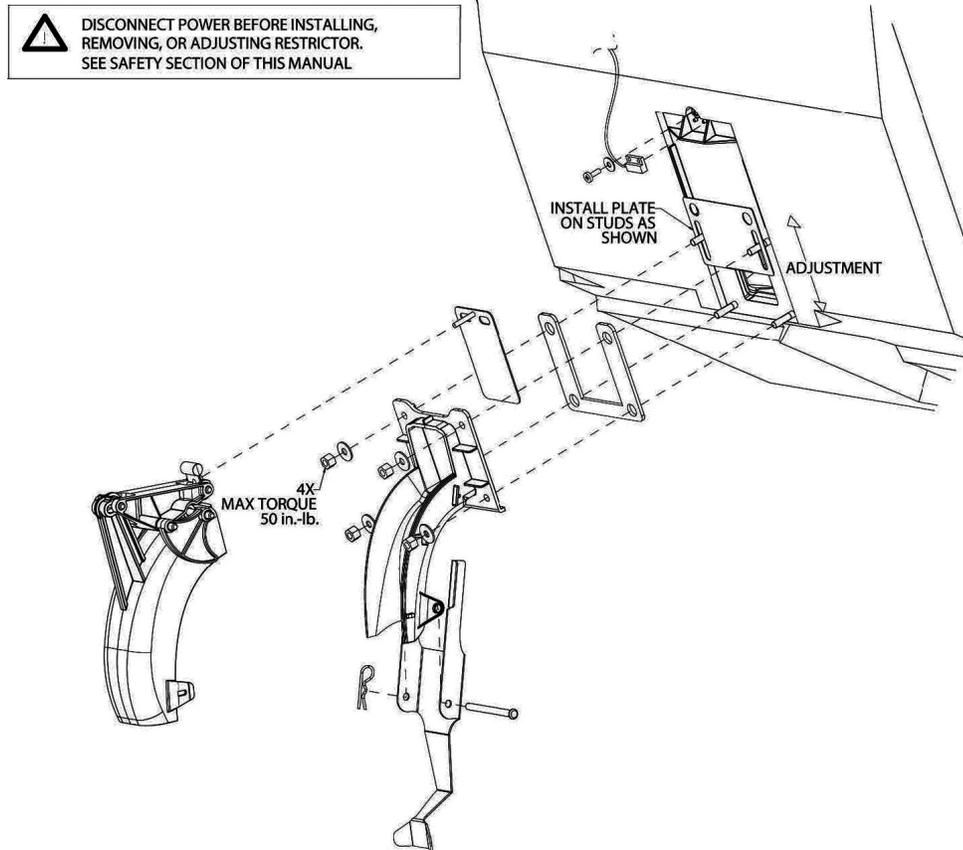

Figure 15. Gater Restrictor Plate
The ice dispensing rate can be adjusted by varying the opening of the gate restrictor plate as illustrated in Figure 15. Reducing the ice dispensing rate is especially desirable when using glasses or other containers with small openings. To adjust the gate restrict or plate, loosen the (4) nuts that hold the ice chute assembly to the bin. The restrictor plate can now be moved up or down. When the restrictor plate is fully up, the ice gate opening is 2-1/2" (6.4 cm) in height, and the maximum rate of ice dispense is available [approximately 3 oz/sec (88.7 ml/sec)]. Retighten the (4) nuts to set the desired restrictor plate opening. **DO NOT EXCEED 50 In.-lb. (5.6 newton-m) of torque.**